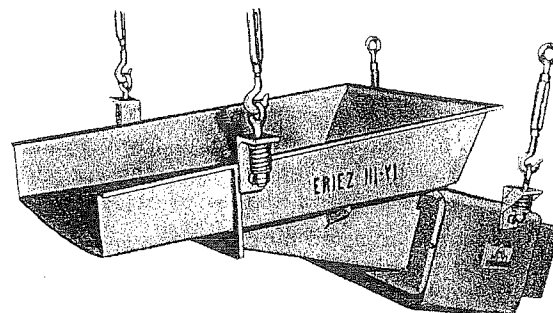

Fig. 1
A. SUSPENSION MOUNTING (Fig. 1)